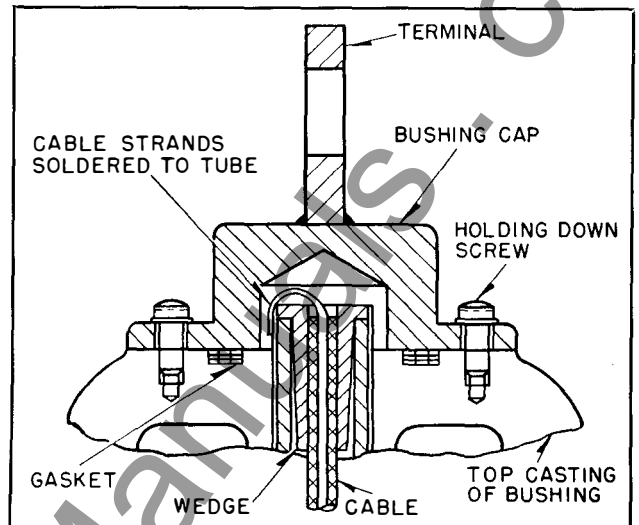

FIG. 4. Sectional View of High-Voltage Bushing at Top
3. Remove the caps on the high voltage bushings (See Fig. 4) by removing the six-fillister head screws that hold the cap in place. Unsolder lead from top of bushing lead tube and allow lead to drop down into bushing tube.
1. Remove the six-fillister head screws that hold the top cap on the bushing. Break gasket seal and remove cap. (See Fig. 4).
3. Pull the cable lead up through the bushing tube and solder the lead to the tube (See Fig. 4).